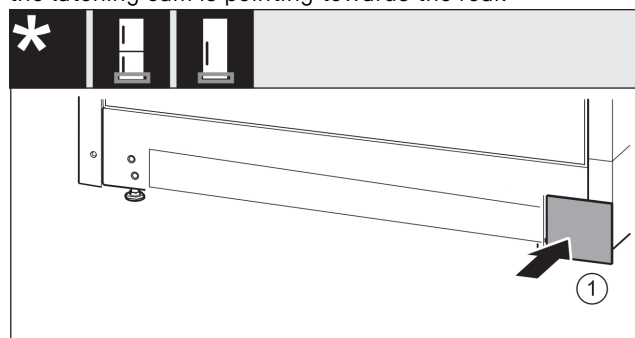

Fig. 33
- Re-attach the cover Fig. 33 (1) to the other side.